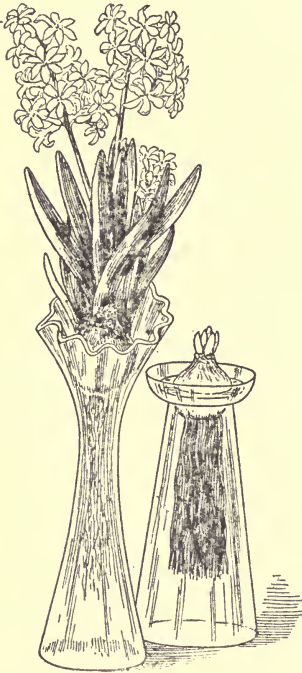

FIG. 48. — Roman hyacinth.
*Growing bulbs in water.* The Chinese lily, Paper White narcissus, and the Roman hyacinth may be raised in water. Special glasses are sold for this purpose. The water should just touch the bottom of the bulb. The glass should be set away in a cool, dark place until the roots develop, when it may be brought into the light. (See figure 48.)